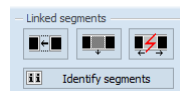

Figure 148 – Linked segments section of the Define layout tool
2. Press the  button on the second tab (the  icon) of the tools panel (see Figure 148).
1. Press the  button on the second tab (the  icon) of the tools panel (see Figure 148).